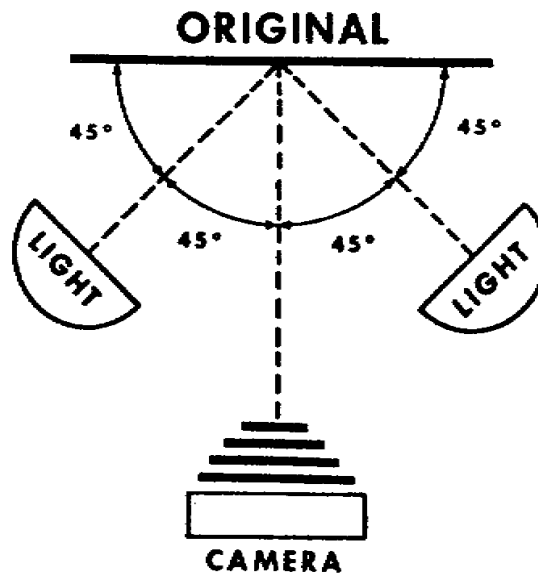

Figure 3-3. Uniform lighting
(1) When checking with a meter, you are not interested in exposure at this time, only even lighting. Take a reading of the center of the copy, then read the four corners of the copy. All readings should be the same. If not, adjust the lights until all areas receive the same amount of light. Do not read the shadows of your hand or the meter.
(2) When using a pencil or similar object, place the pencil perpendicular and centered on the copy. Make sure you place the blunt end and not the sharp end against the copy. The shadows cast by the pencil should be of equal darkness, if not, move the lights until all shadows are equal. Remember that this method is only used to check for uniformity. An exposure must still be taken.
c. To obtain uniform lighting, use at least two lights. Locate one on either side of the camera. Place the lights so there is a 45-degree angle between the light and the original, and between the light and the camera (fig 3-3).